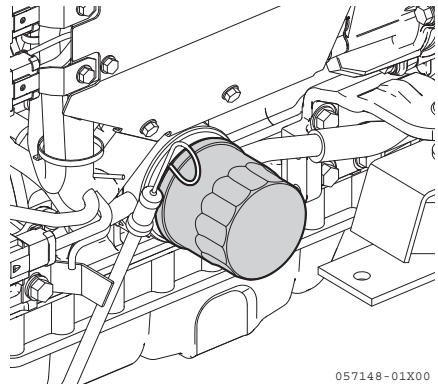

Figure 2
3. Remove the engine oil filter (**Figure 2**) with a filter wrench (turn counterclockwise).